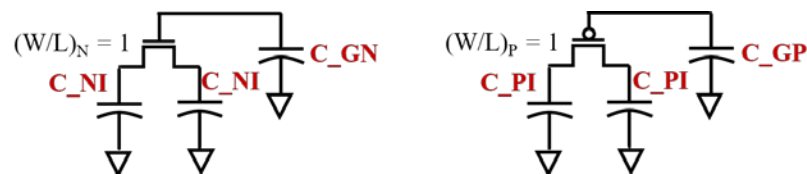

Figure Q2-2. The capacitance models for the MOSFETs may be simplified so that only three capacitors instead of five capacitors need to be included.
- (c) The capacitor model for the MOSFET is shown in Figure Q2-2 for this question. You are given that  $C_{NI}$  and  $C_{PI}$  are directly proportional to  $(W/L)$  of the corresponding transistor, and when  $(W/L)_N = 1 = (W/L)_P$ ,  $C_{NI} = C_{PI}$  and  $C_{GN} = C_{GP} = 10 C_{NI}$ . If  $(W/L)_N = 1$  and  $(W/L)_P = 2$  for the transistors in the MC2, what are the effective capacitances at the carry nodes for all bit positions of the 128-bit adder/subtractor (from the carry-in to the LSB all the way to the carry-out of the MSB) that is built by connecting the MC2 in Q2-1 with the sum signal logic gates in Q2(b)?